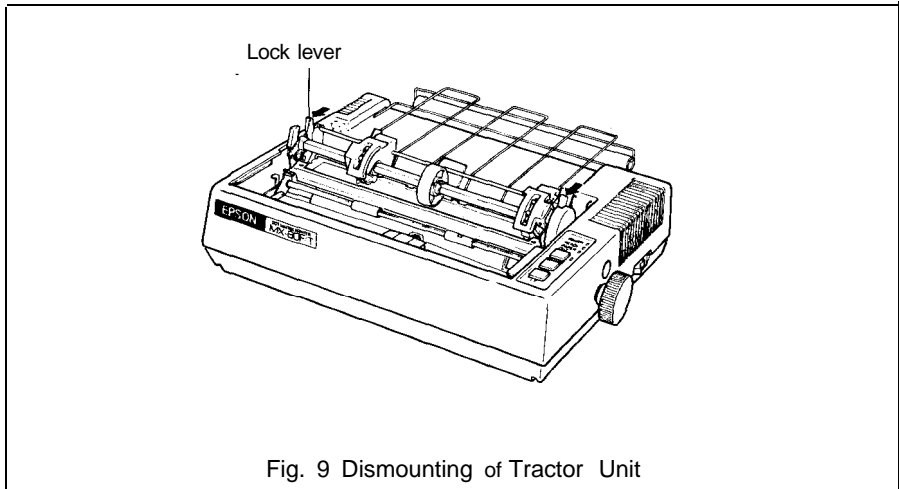

Fig. 9 Dismounting of Tractor Unit
STEP 1. Release the lock levers of the tractor unit by pulling in the direction as shown in Fig. 9.